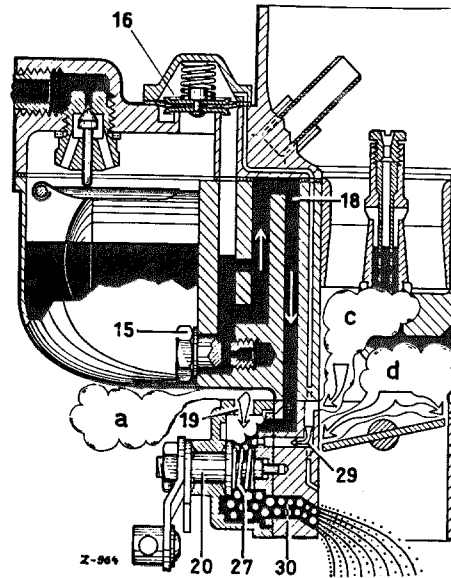

Fig. 07-0/13
At the same time air is drawn from the suction canals of the carburetor through the canal (29). In the chamber (31) of the starter rotary slide valve this additional air mixes with the pre-mixture which enters the starter mixing chamber (27) via the graded bore (32) in the starter rotary slide valve. Here the mixture combines with the pre-mixture entering through the graded bore (33) in the starter rotary slide valve and the air entering through the starter air bore (19) in the starter housing which acts as a starter air jet. The fuel-air mixture which is now formed passes through the aperture (34) in the starter rotary slide valve and the starter mixture canal (30) into the two suction canals of the carburetor and together with the air streaming through the throttle valve gap forms the final start mixture. Fig. 07-0/13 shows the mode of action of the starter mechanism phase 1 when the engine is being started.